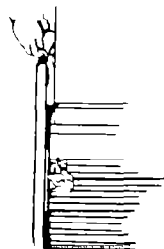

Figure 5
- a. Grip handle and raise front of drawer until it clears stops. (See Figure 5.)